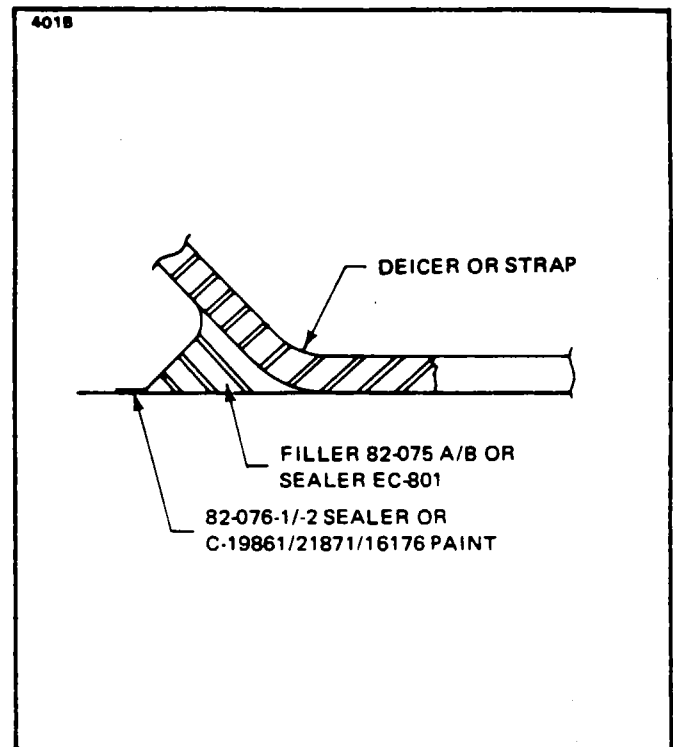

Figure 14-20. Sealer Application (Lead Strap)
f. Insure that a fillet of filler completely covers the area between deicer strap and blade. (See Figure 14-20.) Immediately remove masking tape and allow filler to dry for six hours.
h. Insure that sealer completely covers area between deicer strap and blade. (See Figure 14-20.) Immediately remove masking tape and allow sealer to dry for 24 hours before starting engine.